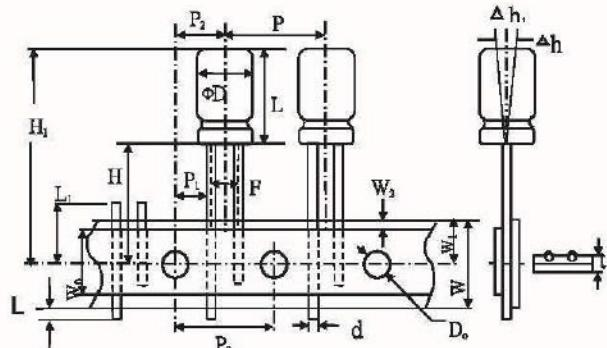

Fig.6(Φ16)
- Body tape requirements are shown from Fig.1 to Fig.6